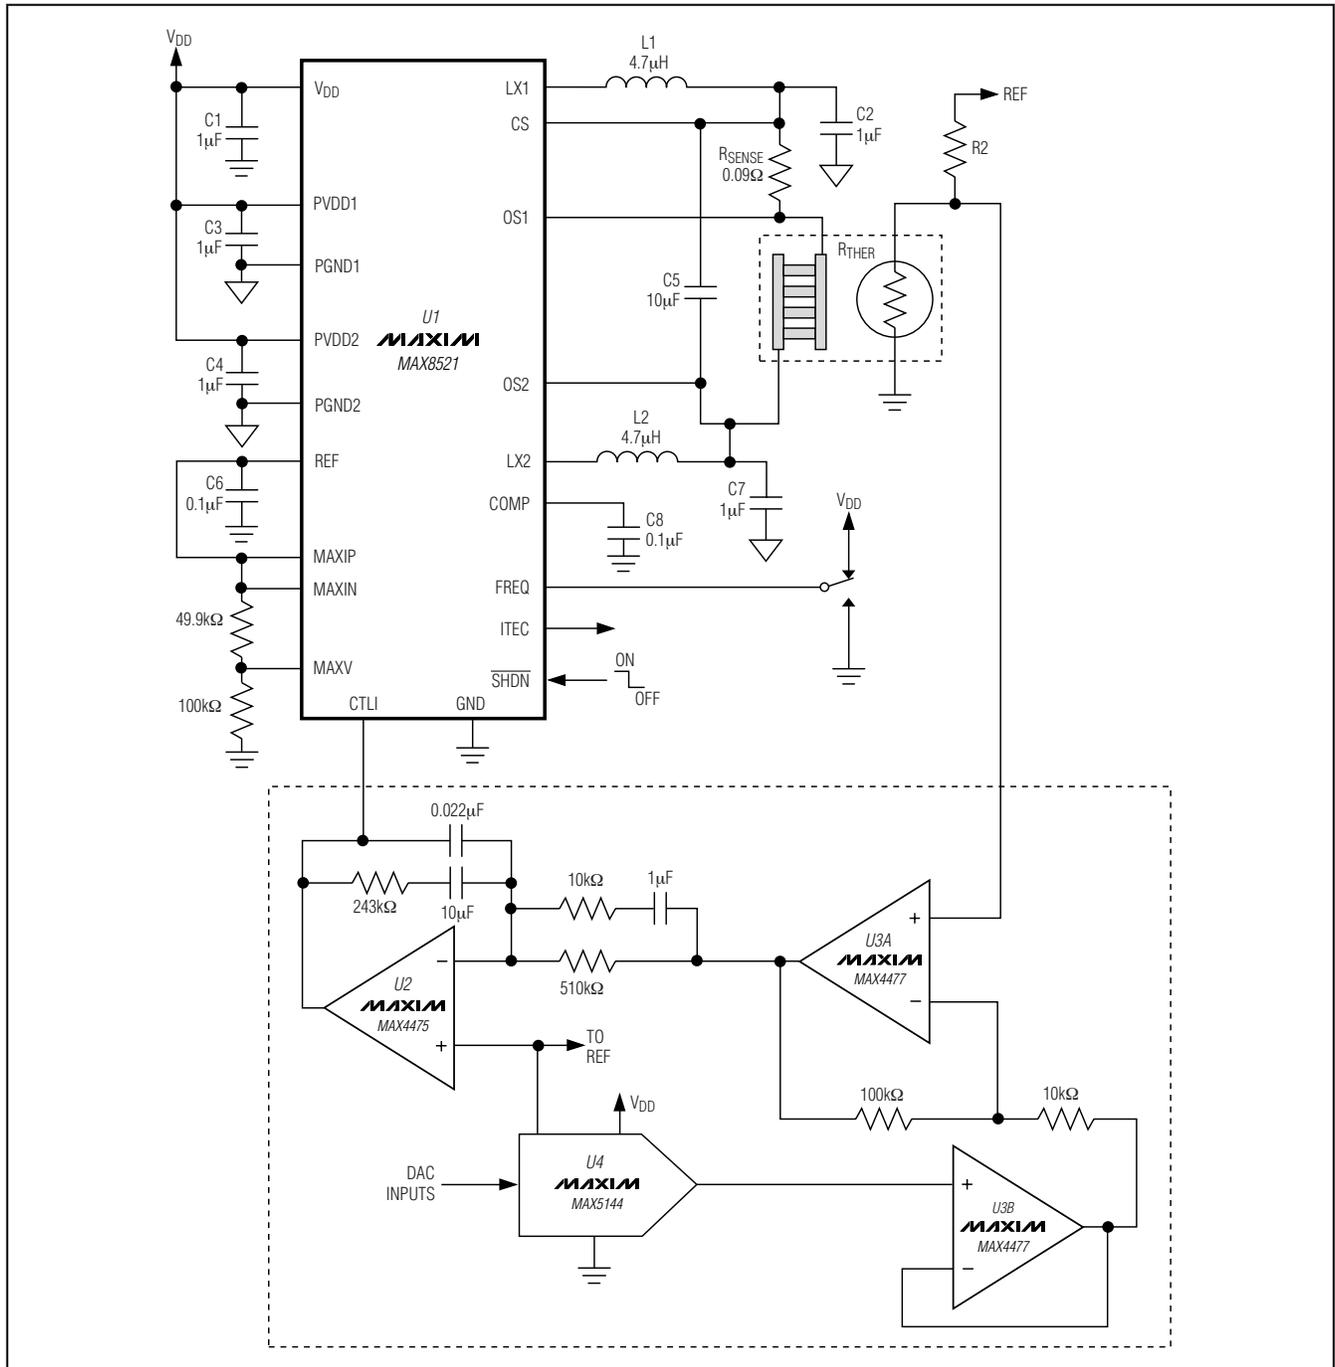

Figure 1. MAX8521 Typical Application Circuit
($V_{DD} = 5V$, circuit of Figure 1, $T_A = +25^\circ C$ unless otherwise noted.)
(V_{DD} = 5V, circuit of Figure 1, T_A = +25°C unless otherwise noted.)
The MAX8520/MAX8521 TEC drivers consist of two switching buck regulators that operate together to directly control the TEC current. This configuration creates a differential voltage across the TEC, allowing bi-directional TEC current for controlled cooling and heating. Controlled cooling and heating allow accurate TEC temperature control to within 0.01°C. The voltage at CTLI directly sets the TEC current. An external thermal-control loop is typically used to drive CTLI. Figures 1 and 2 show examples of the thermal-control-loop circuit.
Table 1. TEC Connection for Figure 1
The MAX8520/MAX8521 include an on-chip voltage reference. The 1.50V reference is accurate to 1% over temperature. Bypass REF with 0.1μF to GND. REF can be used to bias an external thermistor for temperature sensing as shown in Figures 1 and 2.
The common-mode filter capacitors (C2 and C7 of Figure 1) are used as filter capacitors to ground for each output. The output ripple voltage depends on the capacitance, the ESR of these capacitors, and the inductor ripple current. Ceramic capacitors are recommended for their low ESR and impedance at high frequency.
The differential-mode filter capacitor (C_5 in Figure 1) is used to bypass differential ripple current through the TEC as the result of unequal duty cycle of each output. This happens when the TEC current is not at zero. As TEC current increases from zero, both outputs move away from the 50% duty-cycle point complementarily. The common-mode ripple decreases, but the differential ripple does not cancel perfectly, and there will be a resulting differential ripple. The maximum value happens when one output is at 75% duty cycle and the other is at 25% duty cycle. At this operating point, the differential ripple is equal to 1/2 of the maximum common-mode ripple. The TEC ripple current determines the TEC performance, because the maximum temperature differential that can be created between the terminals of the TEC depends on the ratio of ripple current and DC current. The lower the ripple current, the closer to the ideal maximum. The differential-mode capacitor provides a low-impedance path for the ripple current to flow, so that the TEC ripple current is greatly reduced. The TEC ripple current then can be calculated as follows:
There are numerous ways to implement the thermal loop. Figures 1 and 2 show designs that employ precision op amps, along with a DAC or potentiometer to set the control temperature. The loop can also be implemented digitally, using a precision A/D to read the thermistor or other temperature sensor, a microcontroller to implement the control algorithm, and a DAC (or filtered-PWM signal) to send the appropriate signal to the MAX8520/MAX8521 CTLI input. Regardless of the form taken by the thermal-control circuitry, all designs are similar in that they read temperature, compare it to a set-point signal, and then send an error-correcting signal to the MAX8520/MAX8521 that moves the temperature in the appropriate direction.
6) To ensure high DC-loop gain and minimum loop error, keep the board layout adjacent to the negative input pin of the integrator (U2 in Figure1) clean and free of moisture. Any contamination or leakage current into this node can act to lower the DC gain of the integrator which can degrade the accuracy of the thermal loop. If space is available, it can also be helpful to surround the negative input node of the integrator with a grounded guard ring.